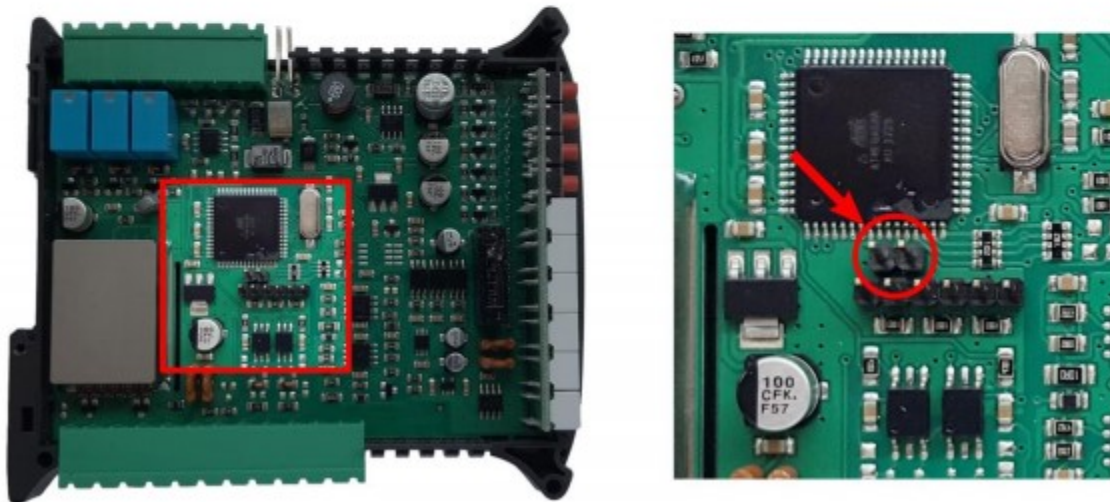

Figure 2-5. Jumper Location
The SCT-20 is sealed with a self-destructive adhesive label (PN 162881) placed over the seam between the two halves of the indicator. The seal prevents the top and bottom half from being separated and prohibits access to the jumper as shown in Figure 2-5 on page 17 from being moved.
- For Legal for Trade applications, the jumper will need to be removed before sealing the SCT-20. See Figure 2-5 for the jumper location.